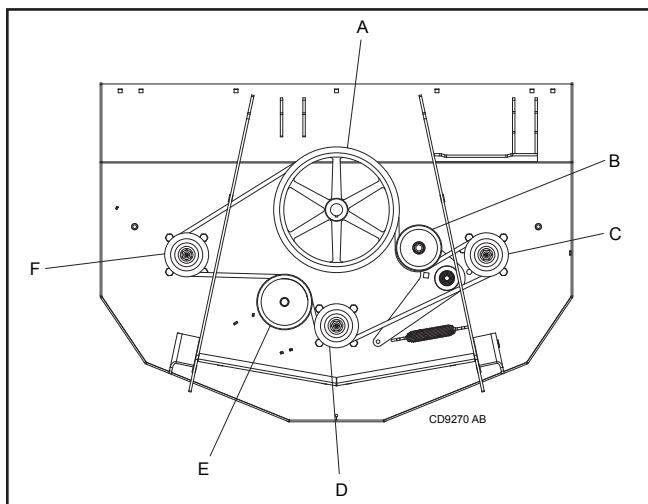

Figure 12. Belt Routing for TBW12.40 Wing Deck
1. Route belt around spindle sheave F, backside idler E, and spindle sheave D as shown in Figures 12–14.
- Route belt around spindle Sheave F, backside idler E, and spindle sheaves C & D as shown in Figures 12–14.